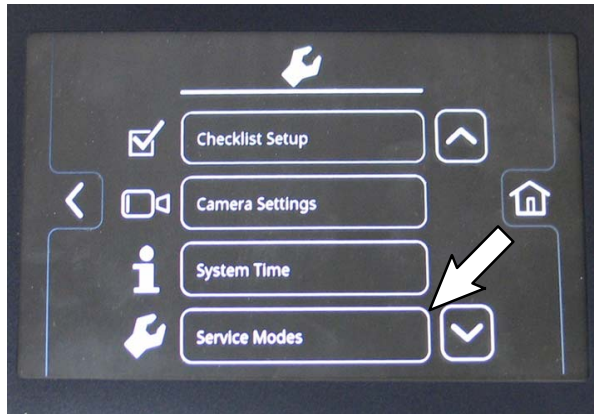

FIG. 35
- Press the settings button. The Service Mode setting screen should appear in the display. (Fig. 34/ Fig. 35)
- Use the down arrow button to scroll down to the Service Modes button and select the Service Modes button to access the service modes. (Fig. 35)